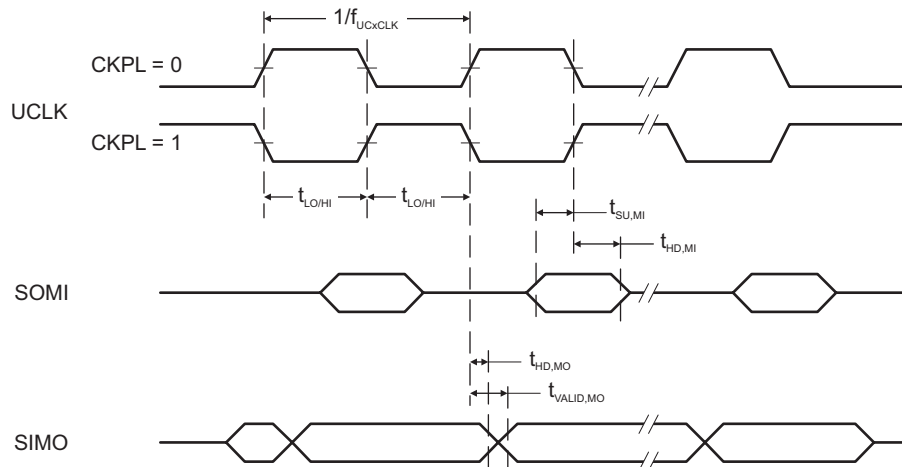
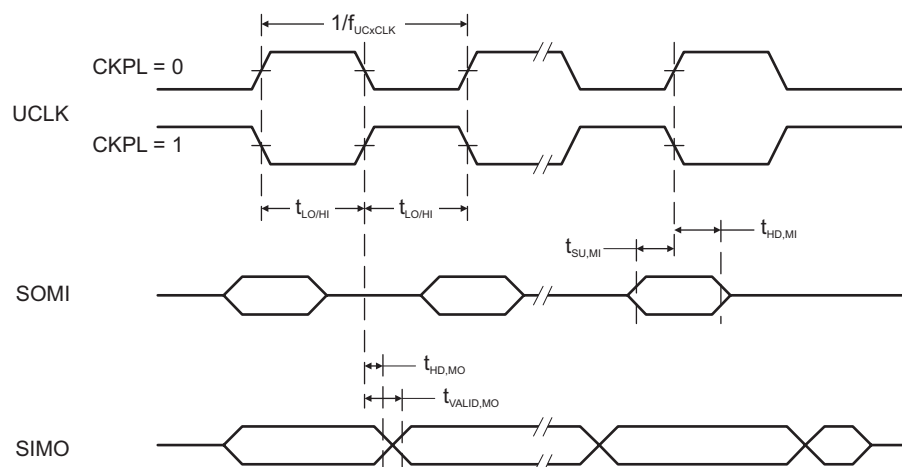

Figure 5-13. SPI Master Mode, CKPH = 0
Figure 5-14. SPI Master Mode, CKPH = 1
(see Note ⁽¹⁾, Figure 5-13 and Figure 5-14)
- (1) f_{UCxCLK} = 1/2t_{LO/Hi} with t_{LO/Hi} ≥ max(t_{VALID,MO}(USCI) + t_{SU,SI}(Slave), t_{SU,MI}(USCI) + t_{VALID,SO}(Slave)). For the slave parameters t_{SU,SI}(Slave) and t_{VALID,SO}(Slave) see the SPI parameters of the attached slave.
- (2) Specifies the time to drive the next valid data to the SIMO output after the output changing UCLK clock edge. See the timing diagrams in Figure 5-13 and Figure 5-14.
- (3) Specifies how long data on the SIMO output is valid after the output changing UCLK clock edge. Negative values indicate that the data on the SIMO output can become invalid before the output changing clock edge observed on UCLK. See the timing diagrams in Figure 5-13 and Figure 5-14.
- Specifies the time to drive the next valid data to the SOMI output after the output changing UCLK clock edge. See the timing diagrams in Figure 5-13 and Figure 5-14.
- Specifies how long data on the SOMI output is valid after the output changing UCLK clock edge. See the timing diagrams in Figure 5-13 and Figure 5-14.